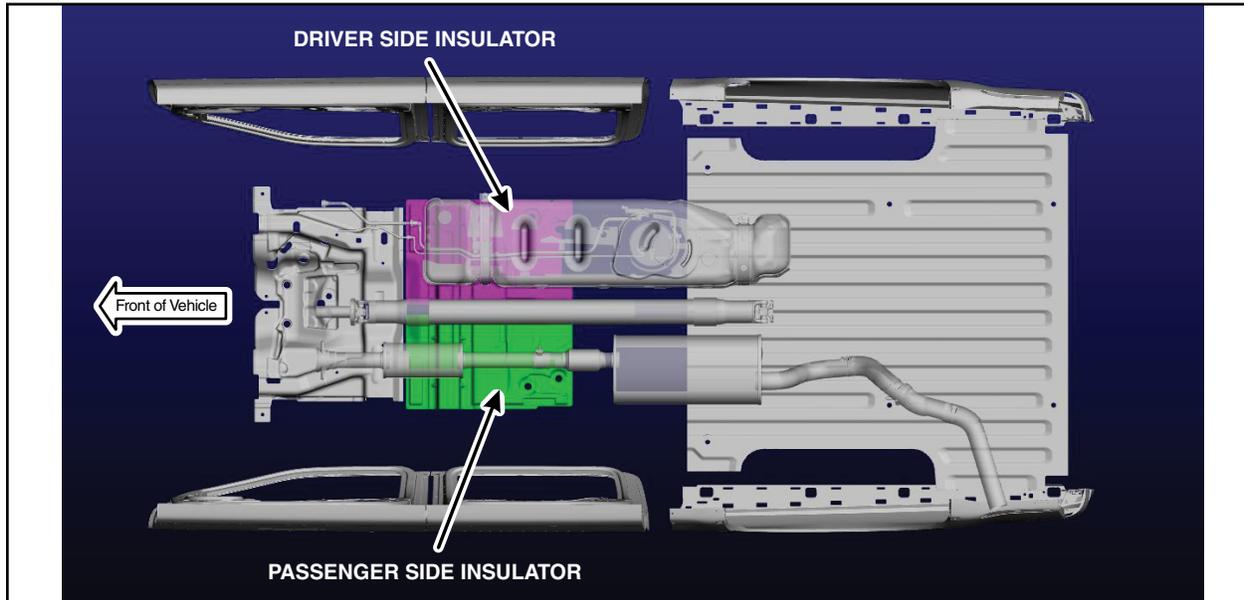

FIGURE 1
2. Is the passenger side underbody insulator present on the vehicle? See Figure 1.